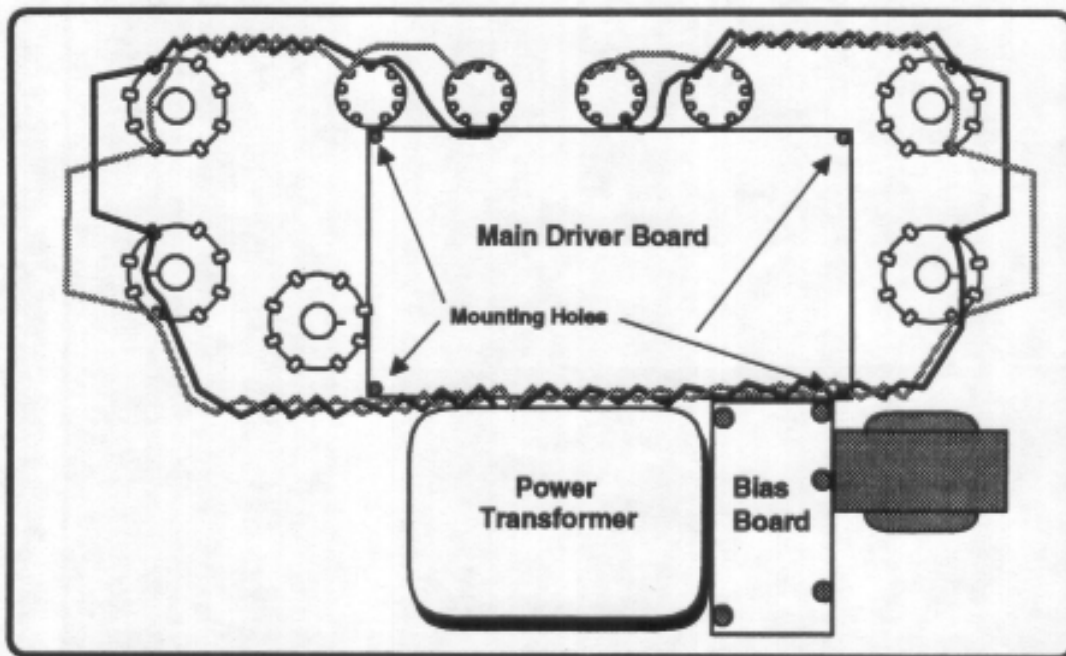

Figure 2. Chassis Layout
- 2) Turn the chassis upside down and position the unstuffed main circuit board inside the chassis (foil side of circuit board facing down) as shown in figure 2. Measure and mark the position of the circuit board's four mounting holes on the chassis using a pen or marker. Once again it is required to drill new mounting holes in the chassis for the main circuit board. After drilling holes, place the circuit board to the side for later use.
- 3) Mount the four (4) 9-pin tube sockets and one (1) 8-pin tube socket to the mounting plate. Secure with the supplied screws.
- 5) Install filament leads (white 18ga. Teflon-coated wire) to the four (4) 9-pin tube sockets. The filament voltage can be taken from the output tube sockets of each channel (left and right). Be sure to twist the filament leads tightly as this will help to reduce stray electrical noise. Route the filament leads around the outer perimeter of the chassis as close to the chassis wall as possible and away from input signal conductors. Refer to figure 2.